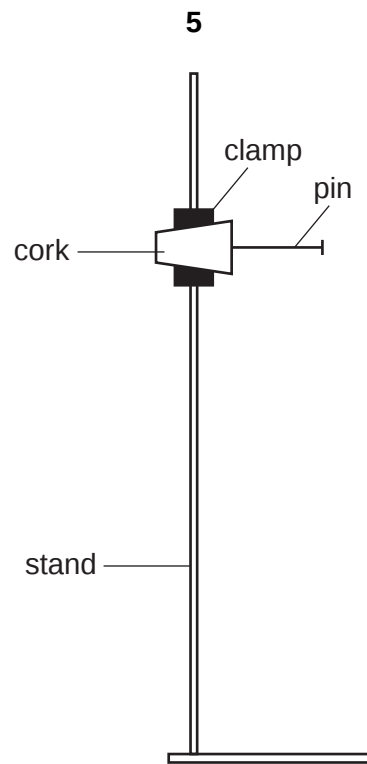

Fig. 1.2
5. The clamp, boss, stand, cork and pin or nail are to be set up for the candidates as shown in Fig. 1.2.